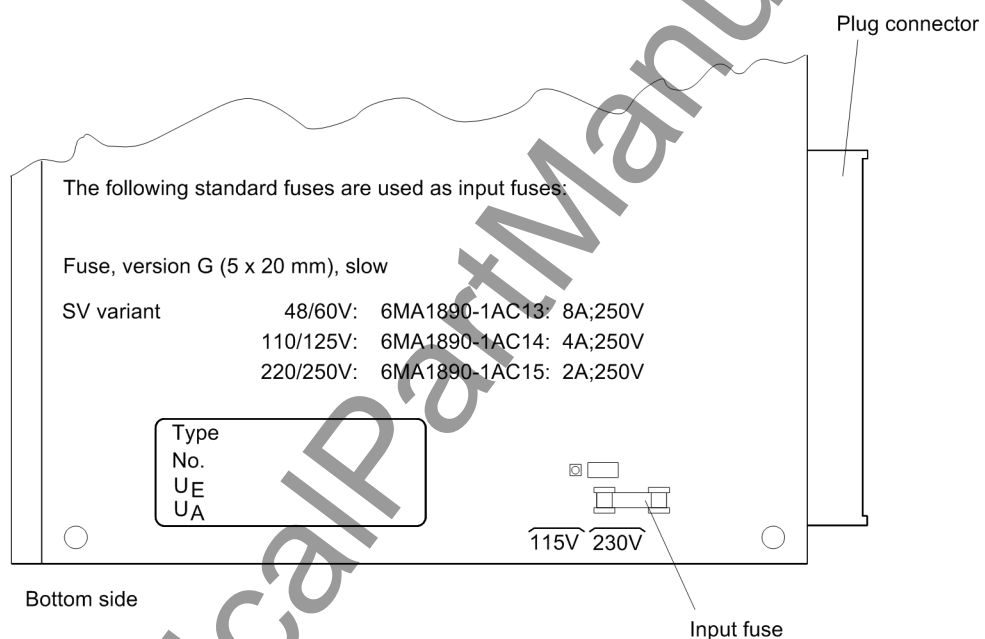
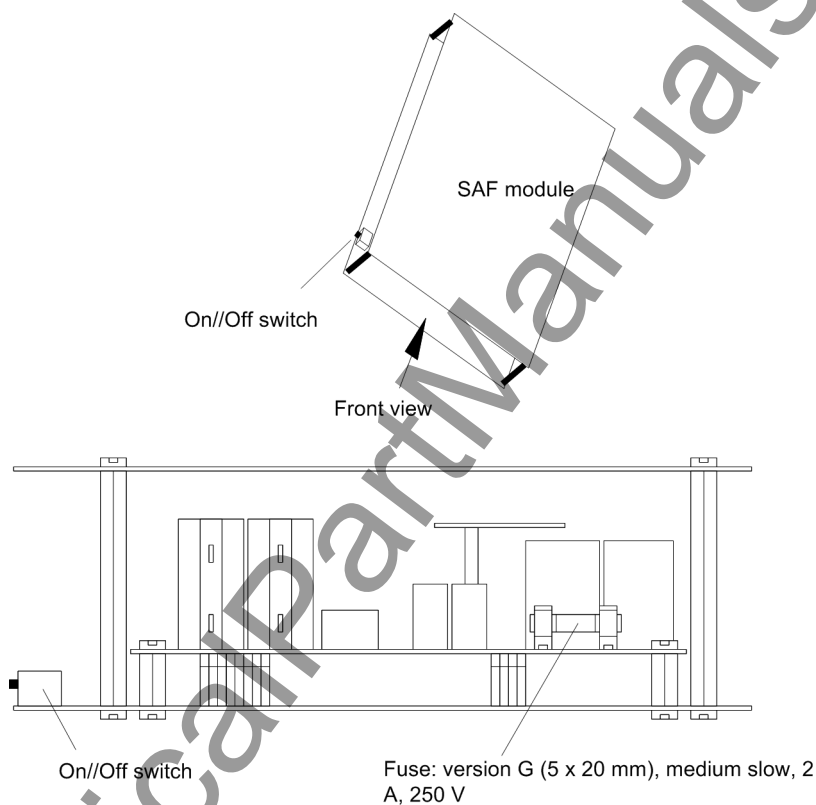

Figure 8-8 Location of the fine-wire fuse on the power supply module (SV) of the central unit
Figure 8-9 Location of the fine-wire fuse on the power supply module (SAF) of the bay unit 7SS523
The ratings of the required fuses can be found for the central unit in Figure 8-8, page 298, and for the bay units in Figure 8-9, page 299 or Figure A-11, page 347.
- ❑ Replace the fine-wire fuse. The location of the fine-wire fuse can be seen in Figure 8-8, page 298.
- ❑ After fastening the front panel, switch the device on. If the auxiliary voltage failure continues to be indicated, there must be a failure or short-circuit in the internal power supply. The power supply module (SV) should be sent to the factory.
- ❑ Replace the fine-wire fuse. The location of the fine-wire fuse can be seen in Figure 8-9, page 299 or Figure A-11, page 347.